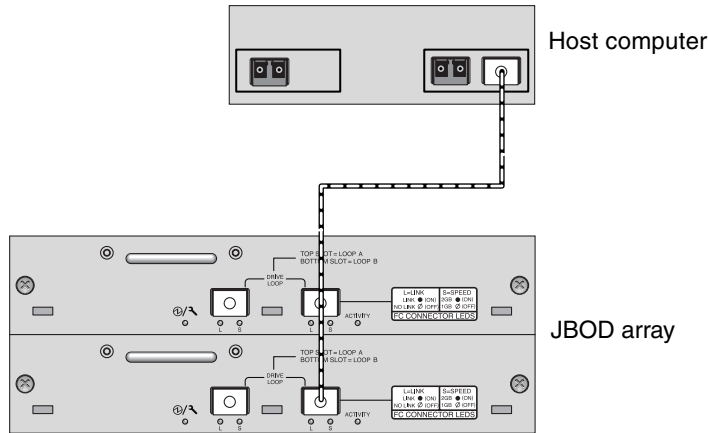
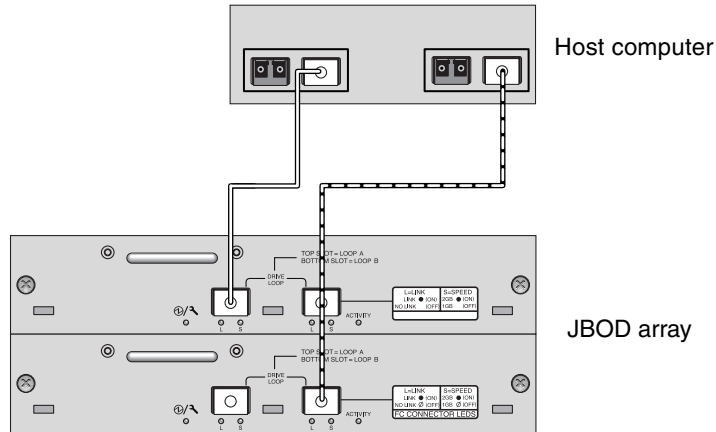

FIGURE B-2 Sun StorEdge 3510 FC JBOD Array Attached to a Single HBA Port
FIGURE B-3 Sun StorEdge 3510 FC JBOD Array Attached to Two HBA Ports
- Check the back panel. The back panel of the Sun StorEdge 3510 FC JBOD resembles the back panel shown in FIGURE B-2.
You can connect a Sun StorEdge 3510 FC JBOD array to an FC port, a port on a single-port HBA, or a single port on a dual-port HBA. FIGURE B-2 shows an example of a Sun StorEdge 3510 FC JBOD array with 12 drives, connected to a host computer over a single loop to a single FC port. In this example, the port is one of a pair of ports on a dual-port HBA.
FIGURE B-3 shows an example of a Sun StorEdge 3510 FC JBOD array with 12 drives, connected to a host computer over two loops to two FC ports. In this example, both ports are on dual-port HBAs.
Use fiber-optic cables to connect one or two HBA ports on the host computer to the Sun StorEdge 3510 FC JBOD array, as shown in FIGURE B-2 and FIGURE B-3.